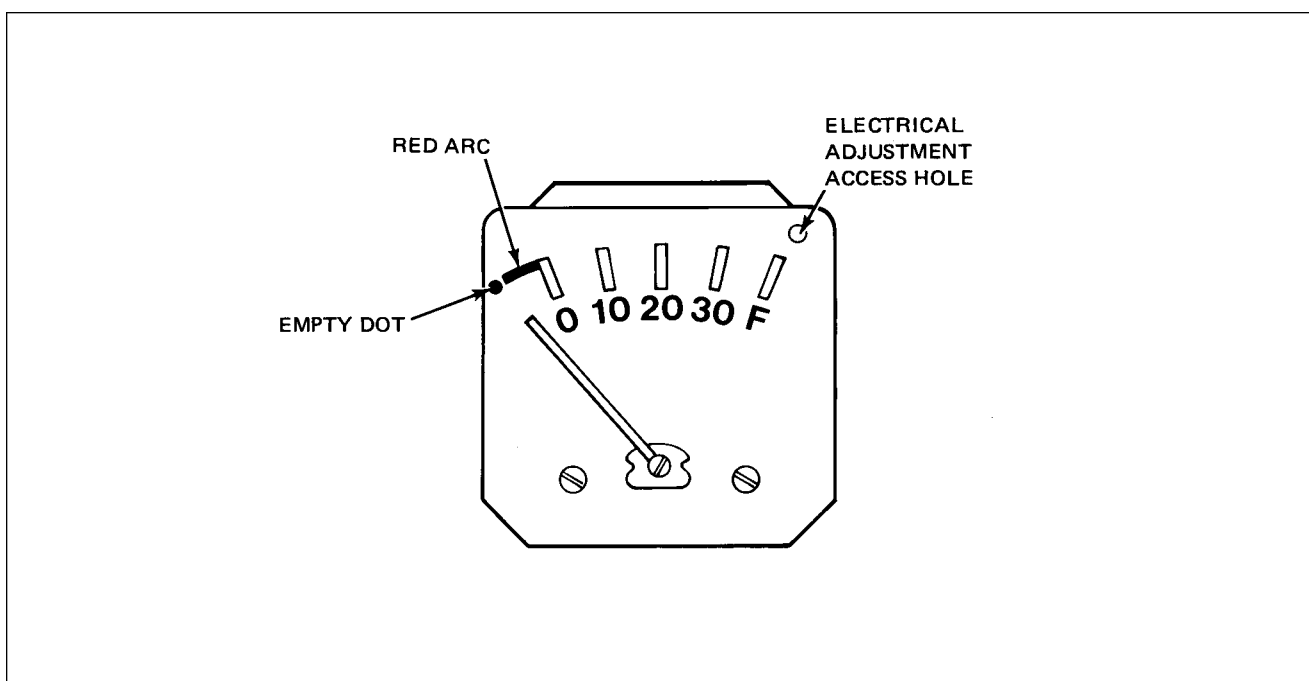

Figure 28-8. Fuel Gauge
9. With the tanks full and master switch "ON," the needle should be centered on the "F" radial mark within ± 2 needle widths. If not within this tolerance, adjust the electrical adjustment (refer to Figure 28-8) just sufficiently to bring it within tolerance; do not center the needle.